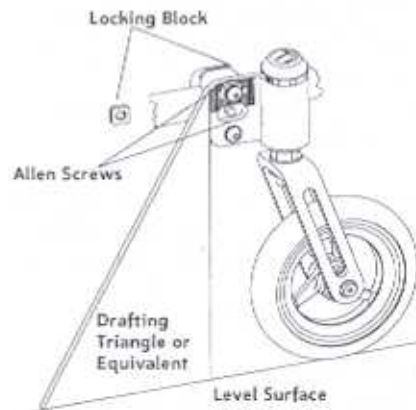

Figure 25
2. Rotate the caster barrel until the flat edge is perpendicular with the ground. Use a triangle or straight edge placed against the flat edge for accuracy [Figure 25].